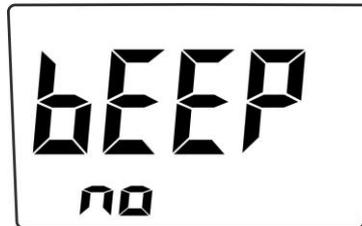

Fig. 37: Disabling sound function
3. The “bEEP no” message is shown on the display for a few seconds (see Fig. 37), the instrument automatically switches on in measuring mode and the “(o)”)” symbol (see Fig. 2 – part 1) disappears from the display. The function is automatically restored when re-booting the instrument. When the sound function is off, all sounds of the meter are deactivated, including key tones and alarm tones